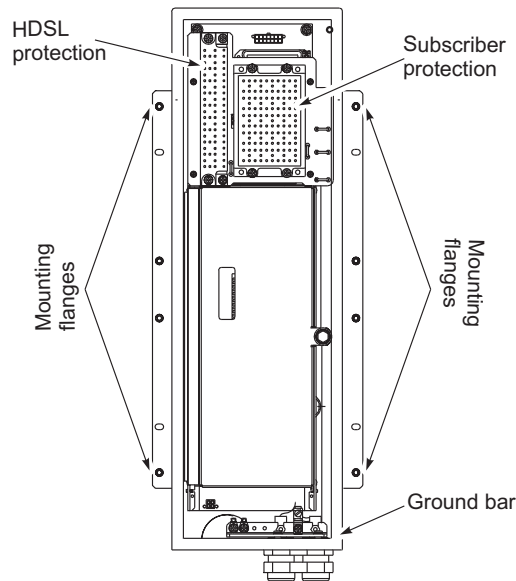

Figure 1
The FRE-860 can be mounted in a Marconi[®] UP10900 pedestal using the mounting flanges and hardware included with the FRE-860 (see Figure 1).
2. Attach the FRE-860 to the pedestal frame using the mounting flanges (see Figure 1). Use the 10-32 x 3/8" mounting hardware provided with the FRE-860 to secure the RT enclosure to the pedestal.